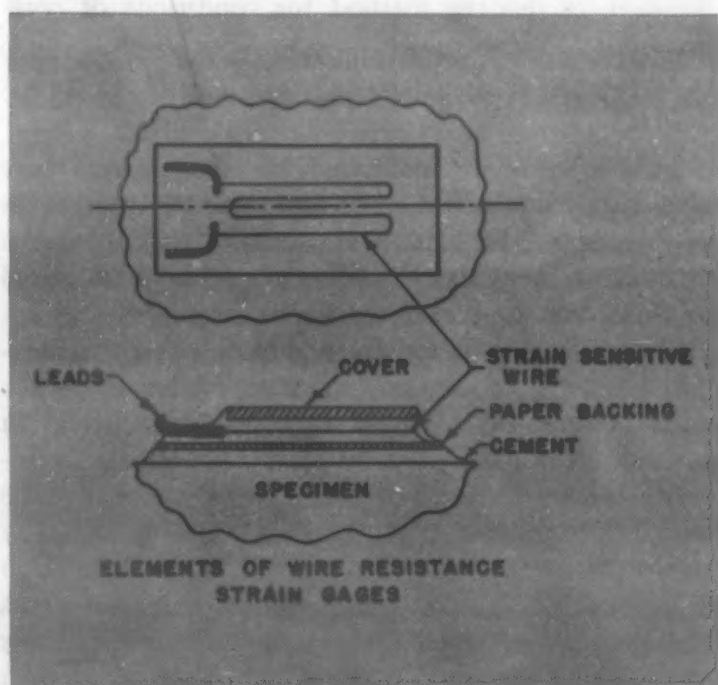

Fig. 4—A schematic diagram of the metallectric wire strain gage.
stress. With the SR-4 gages the actual strain indication is made in terms of changes in electrical resistance, but the apparatus which has been developed for use with them makes all the computations necessary to convert these indications into terms of strain in inches per inch and in some cases even records results on a chart or piece of paper. Commercial instruments can now be procured which will record observations from a single gage (see Fig. 4) with direct visual observation of the computed result or more complicated apparatus which will scan, compute, and record the observations from forty-eight (48) gages every minute and a half.
Although no attempt will be made in this discussion to go into the details of the different types of strain gages, the wire resistance gage is of such importance that it warrants a brief description. The gages usually consist of a grid of very fine wire cemented to a thin piece of paper (as shown diagrammatically in Fig. 4) and covered by a small piece of felt for protection. The paper is carefully cemented to the surface on which the strains are to be measured and any changes in dimension are transmitted through